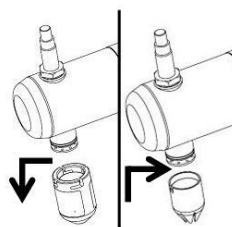

fig. 4
- Replace cleaning nozzle with garnishing nozzle (fig. 4).